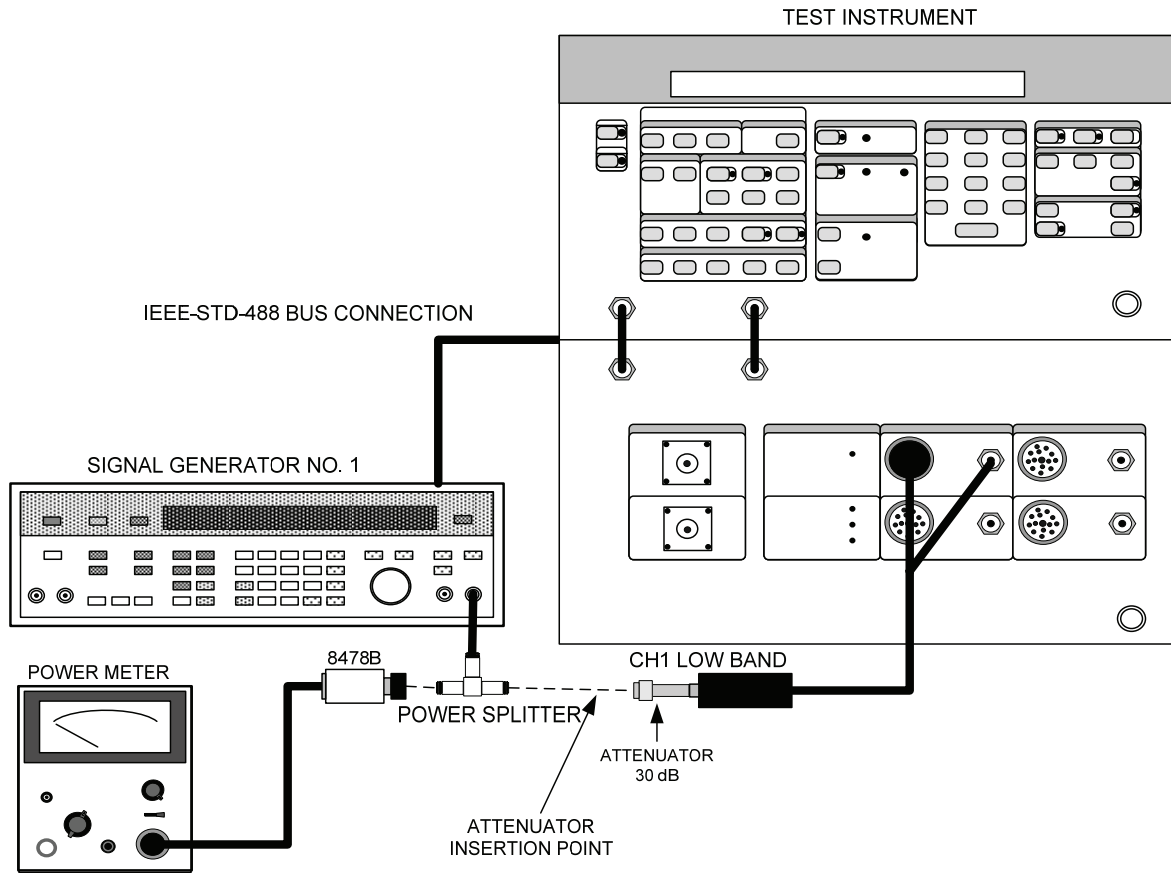

Figure 3. Single channel accuracy and dynamic range - equipment setup.
(1) Connect equipment as shown in figure 3, using low band probe (CH1).
(2) Press TI pushbuttons as listed in (a) through (e) below:
(3) Adjust signal generator No. 1 for a power level of 0 dBm indication on power meter. Maintain this power level throughout remaining checks.
(4) Press TI **MEASUREMENT ON** and **REF** pushbuttons to establish TI reference.
(5) Press **MEASUREMENT - STOP** pushbutton. Connect 6 dB attenuator at attenuation insertion point as shown in figure 3.
(6) Press **MEASUREMENT - ON** pushbutton. TI display will indicate the measured insertion loss (dB) \pm maximum uncertainty as listed in test report for the attenuator.
- (7) Repeat (5) and (6) above substituting 20 and 30 dB attenuator.
- (8) Repeat (1) through (4) above changing **RESOLUTION** to **.1 dB**.
- (9) Press **MEASUREMENT STOP** pushbutton. Connect variable attenuator and 30 dB attenuator in series and connect combination in attenuator insertion point (fig. 3).
- (10) Set variable attenuator to **0.0 DB**. Press **MEASUREMENT ON** and observe TI **VM-4A LOCKED** light is on.
- (11) Increase variable attenuator setting in 1 dB steps until **VM-4A LOCKED** light starts blinking, then decrease setting until light remains on.
- (12) TI display reading must be greater than 60 dB (55 dB at frequencies above 9 GHz).
- (13) Repeat (1) through (12) above at frequencies of 1.5, 3.0, 5.6, 9.7, 11.0, 15.0 and 17 GHz. Substitute high band probes for low band probes and signal generator No. 2 for signal generator No. 1 at frequencies above 2 GHz.